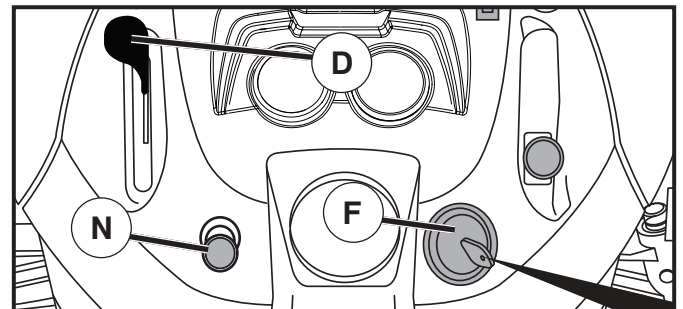

Fig. 6
TO USE THROTTLE CONTROL (D) (See Fig. 6)
TO USE CHOKE CONTROL (N) (See Fig. 6)